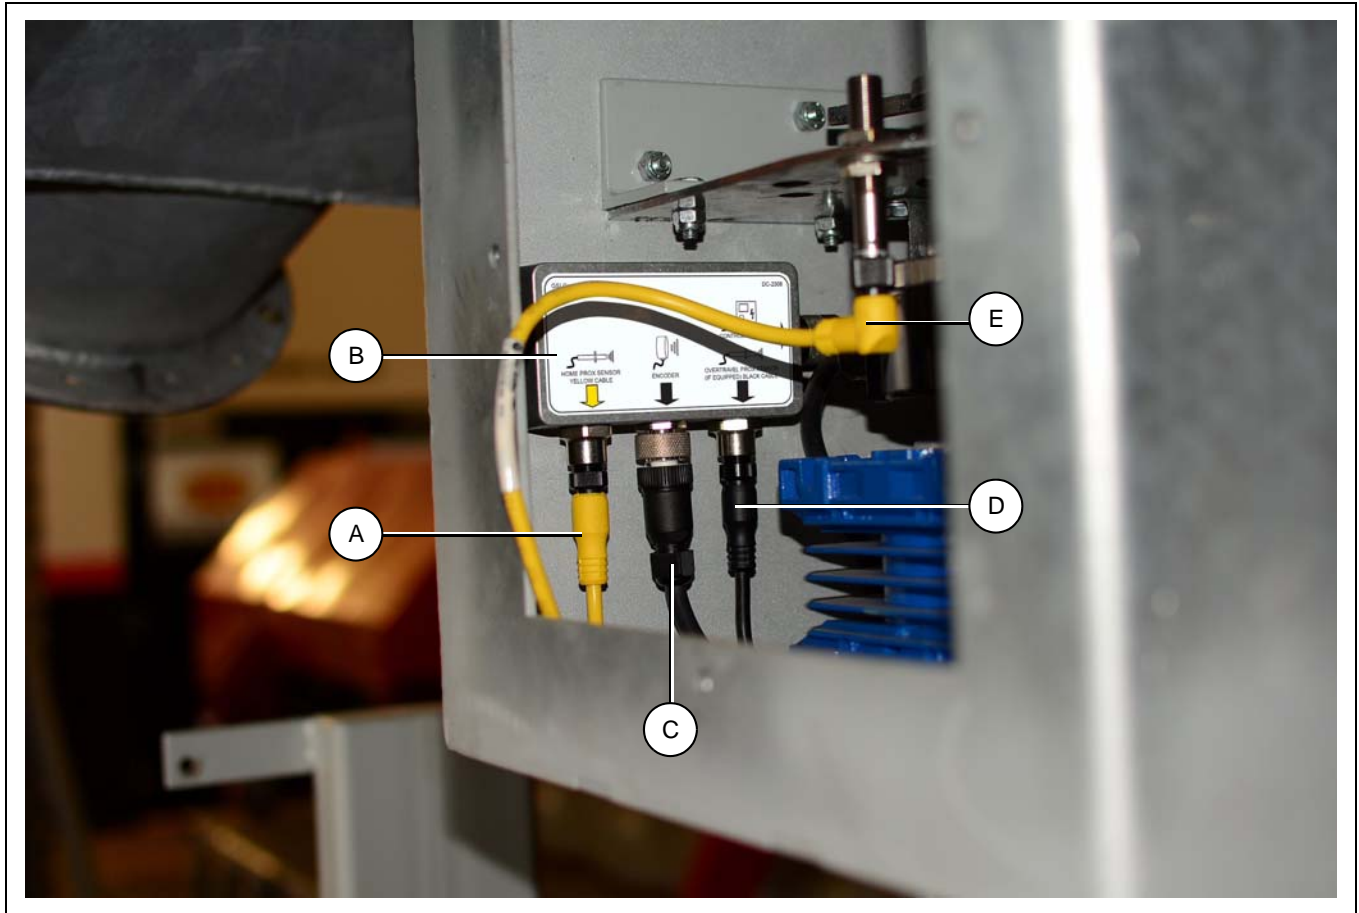

Figure 3F Control Panel Wiring to Junction Box Electrical Connections
Pull sensor cable (E) through conduit to enclosure. (See Figure 3F.)